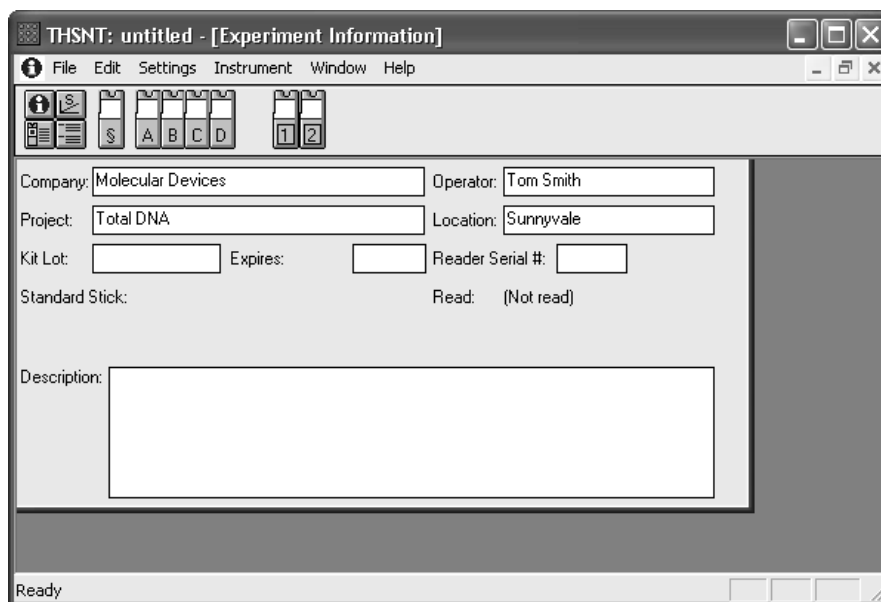

Figure 3-1: The Opening Screen
- 5) The Opening Screen opens. (Figure 3-1).